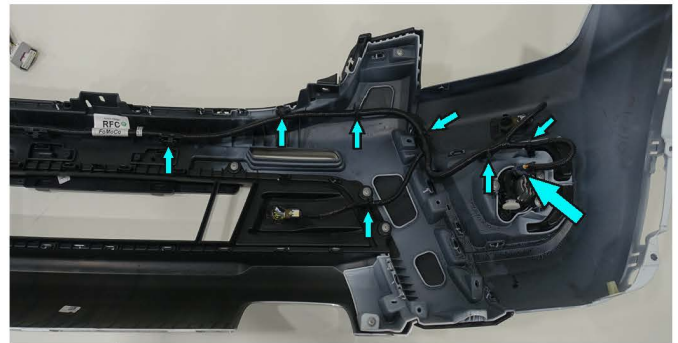

Fig.47
47. Disconnect electronic connectors on both sides of the vehicle and remove OE wires with parking sensors on OE bumper (fig.47).